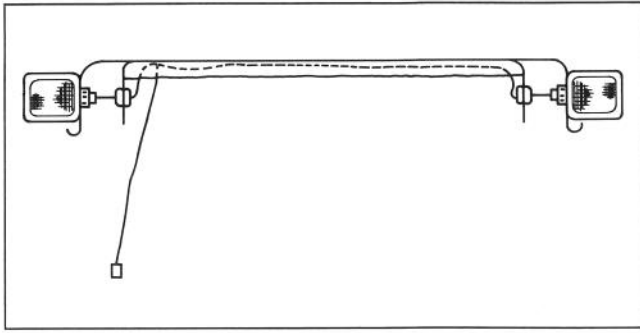

Figure 23
1. Install a flashing light into each outside hole in the canopy and secure each assembly with flat washers, lock washers and hex nuts (Fig. 23).
3. Insert each harness butt connector through the grommet in the inner walls of the ROPS canopy, slip a 2 in. section of shrink tubing over each wire and connect them to the flashing lights (Fig. 23). Seal the connections with the shrink tubing.